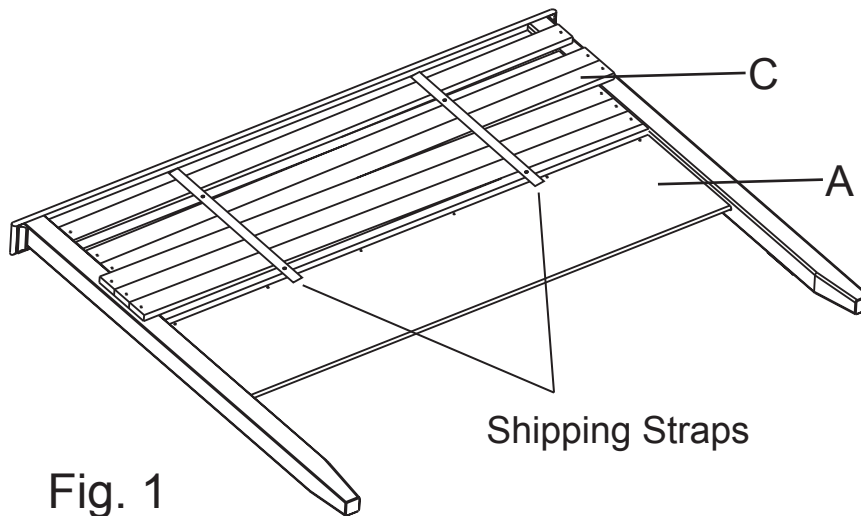

Fig. 1
1. Remove the Slats (C) from the back of the Headboard (A) as seen in Figure 1 and place them off to the side.